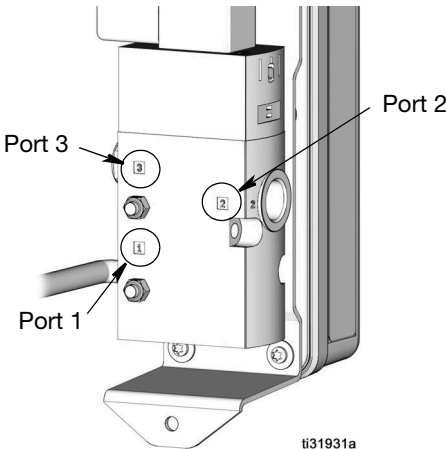

FIG. 1
Numbers 1-3 in the solenoid (14) housing identify the connection ports (Fig. 1).
1. Apply thread sealant to male threads of fittings. Connect air supply line to Port 1 (Fig. 1).
2. Apply thread sealant to male threads of fittings. Connect line to the pump air inlet to Port 2 (Fig. 1).